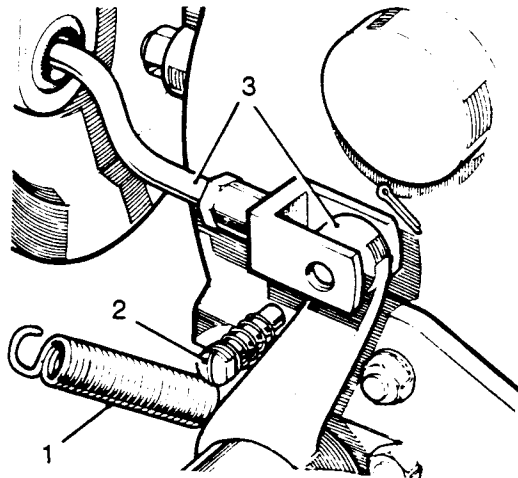

Fig K2.13
- (15) Refer to Fig K2.13. Fit the expander rod (3) to the relay lever.
- (16) Replace the expander rod fork fixings (2).
- (17) Connect the brake return spring (1).
- (18) Adjust the brake (see Sub-sub-section K2.3).
- (19) Remove the chocks under the road wheels.